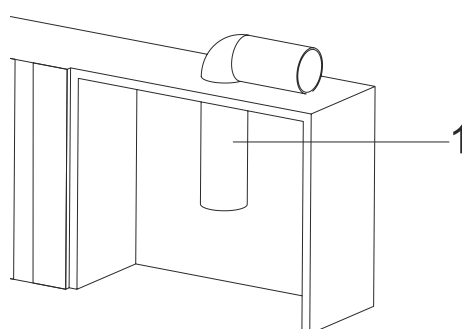

Fig. 12
- ➔ Bring the air exhaust pipe to the cabin in which the appliance will be mounted on (Fig. 12).